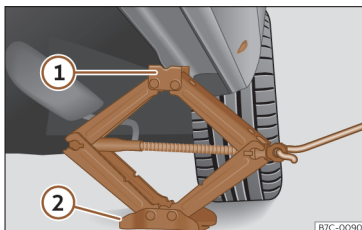

Fig. 206 Crossbar: mounting the jack on the vehicle.
- Turn the jack crank handle, located below the crossbar support point, to raise it until the tab ① >>> **Fig. 206** is below the housing that is provided.
- Align the jack so that the tab ① “grips” onto the housing provided on the cross member and the mobile base ② is resting on the ground. The base plate ② should fall vertically with respect to the support point ①.